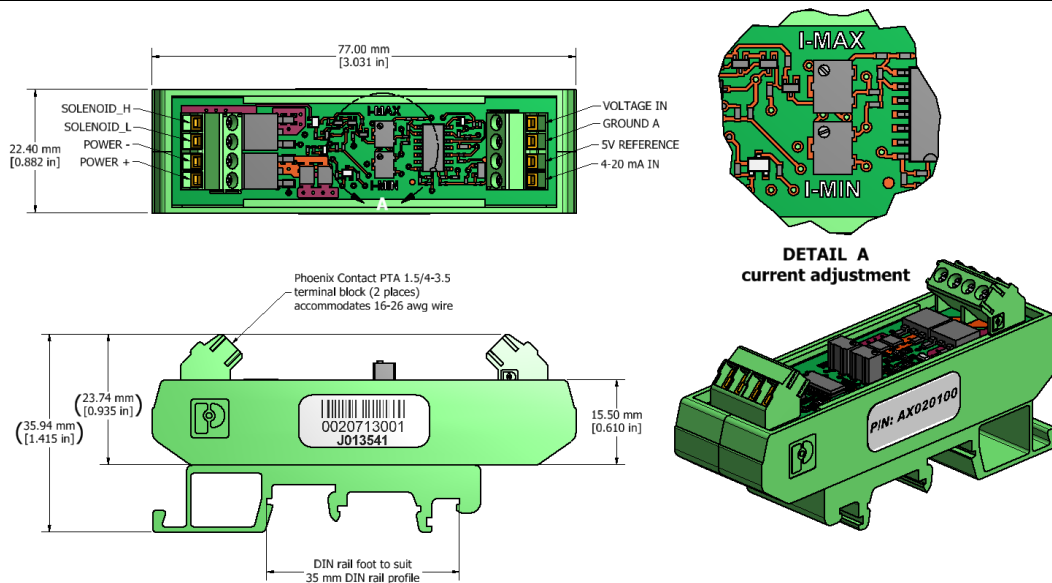

Figure 1.0 - Dimensional Drawing
Electrical connection	2 4-pin Terminal Blocks Phoenix Contact P/N: PTA 1.5/4-3.5 Accepts 16-26 AWG wire. For pinout, see Figure 1.0.
Enclosure and Dimensions	PA66 Nylon, Phoenix Contact P/N: UMK-SE 11, 25-1-2970442 (housing) and UMK-FE VE 500-29063654 (DIN rail foot)  Mounts on DIN rail NS 32 or NS 35/7.5 For dimensions, see Figure 1.0.
- Connect the power supply, command potentiometer or input signal and valve solenoid as shown on Figure 1.0 and in Section 2.4. Put isolation sleeves on any unused wires for the potentiometer.
Connect the cable conductors to the power supply, input signal or potentiometer and load, as follows and per Figure 1.0.
The location of the trim pots for the set up adjustments are shown in Figure 1.0.